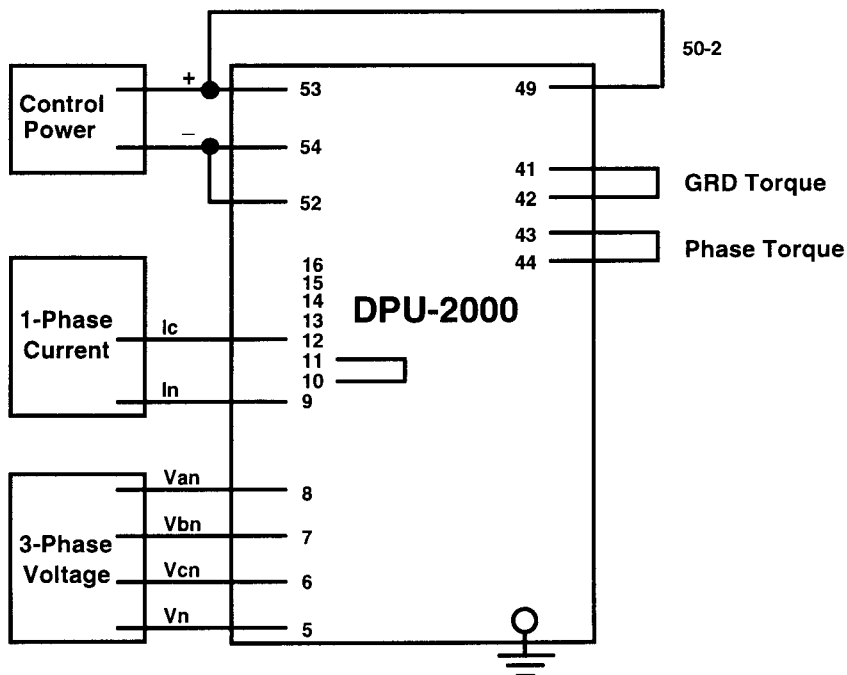

Figure 31. Test Circuit for 50P-2 and 50N-2 Functions
- b. Connect the DPU-2000 as shown in Figure 31.